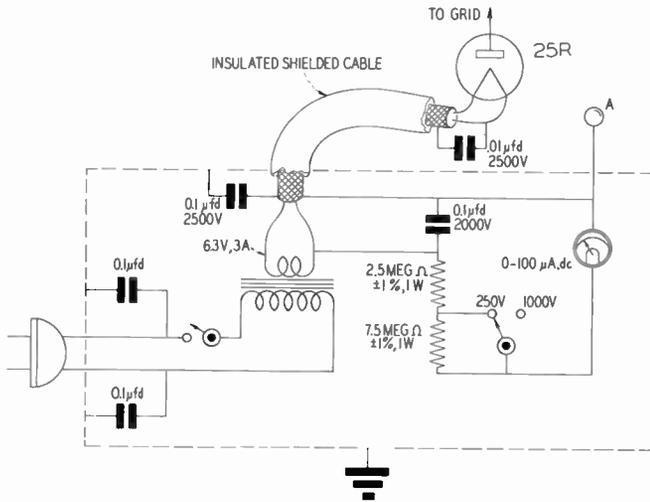
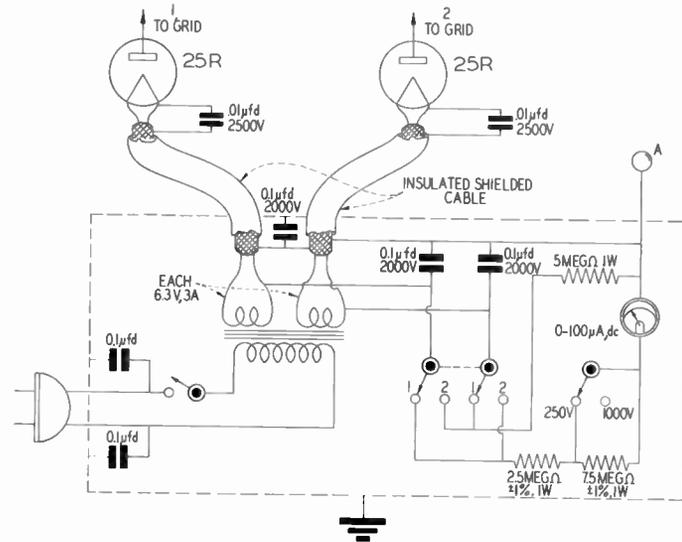

Figure 1. Peak vacuum tube voltmeter for making E_{gm} or e_{gm} measurements.
Figure 2. Dual peak vacuum tube voltmeter for E_{gm} or e_{gm} measurements on push-pull stages.
In order to use these expressions for P_g it is necessary to determine either E_{gm} or e_{gm} . A suitable peak voltmeter for this purpose is shown in figure 1. When terminal (A) is connected to the negative end of the C-bias supply the meter reads E_{gm} . With (A) connected to ground, the meter indicates e_{gm} . The first method of connection is most useful in measuring total grid driving power. When used to determine grid dissipation or driving power on a push-pull stage by measuring the voltage on each grid separately it may be advisable to shunt the "free" side of the grid tank circuit with a small capacitor having a capacitance equal to that introduced by the v.t.v.m. A dual peak v.t.v.m. suitable for E_{gm} or e_{gm} measurements on each side of a push-pull stage is shown in figure 2. When determining driving power per grid or grid dissipation per grid on a push-pull stage the value for I_c should be taken as one-half the total D-C grid current, of course.